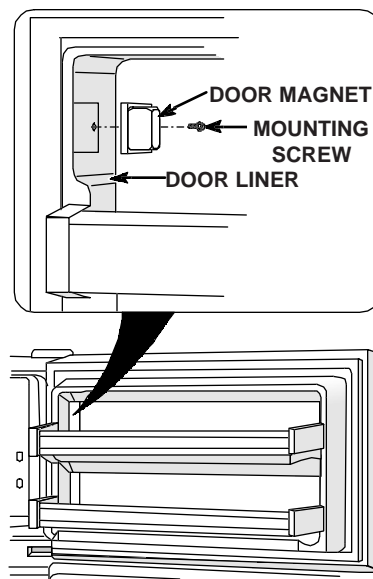

Fig. 72
1. If the door magnet does not have a mounting screws, pull the magnet away from the door until the adhesive tape is free of the door liner. (Fig. 72)